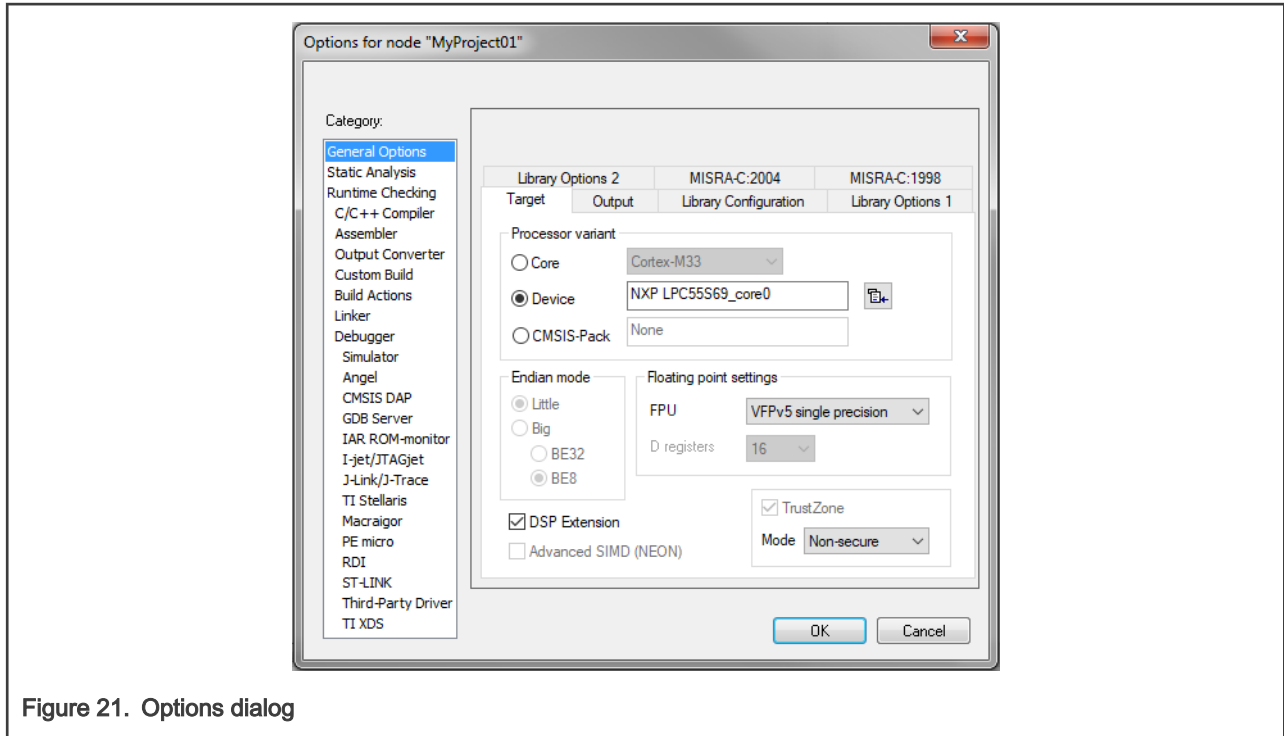

Figure 21. Options dialog
6. In the Target tab, select the Device option, and click the button next to the dialog to select the MCU. In this example, select NXP > LPC55S69 > NXP LPC55S69_core0. Select VFPv5 single precision in the FPU option. The DSP instructions group is required please check the DSP Extensions checkbox if not checked. Click OK. See Figure 21.